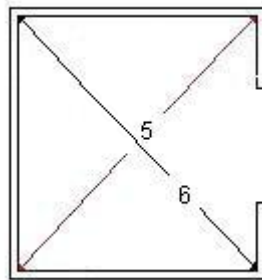
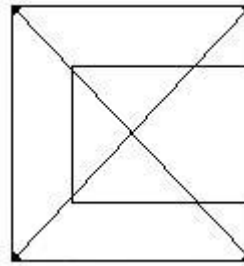

Fig 2
Fig 3
- 4 Measure diagonal (5 & 6) as shown in Fig 2. Check your corner to corner measurement on your assembled countertop, Fig 3. If these dimensions are within a $\frac{1}{4}$ ", you should be in good shape. If this dimension is larger than a $\frac{1}{4}$ " go to the step 6.